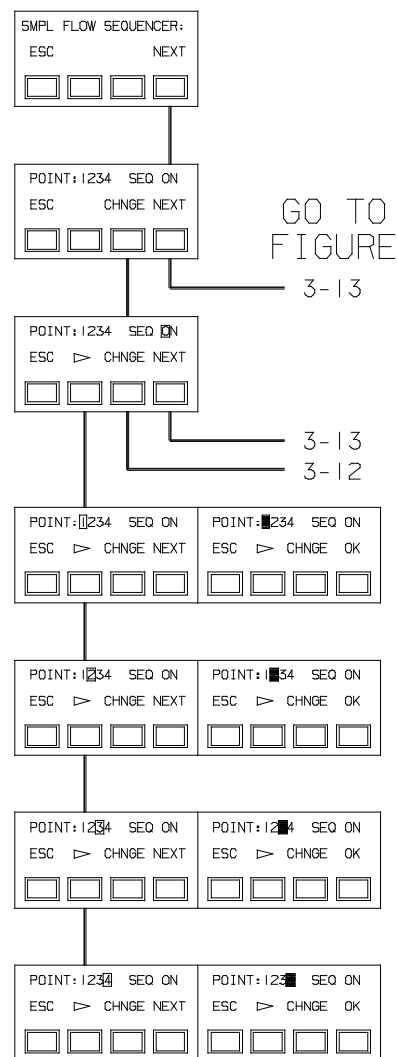

Figure 3-11
- After pressing OK, the display shows a dark diamond to indicate which points are de-activated (see FIGURE 3-11).